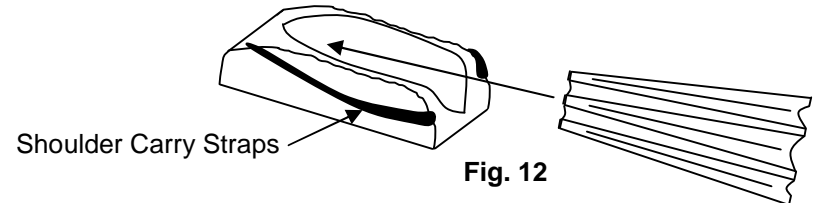

Fig. 12
5) Put tent into Bag with Hubs at the Bottom of Bag. (Fig. 12)